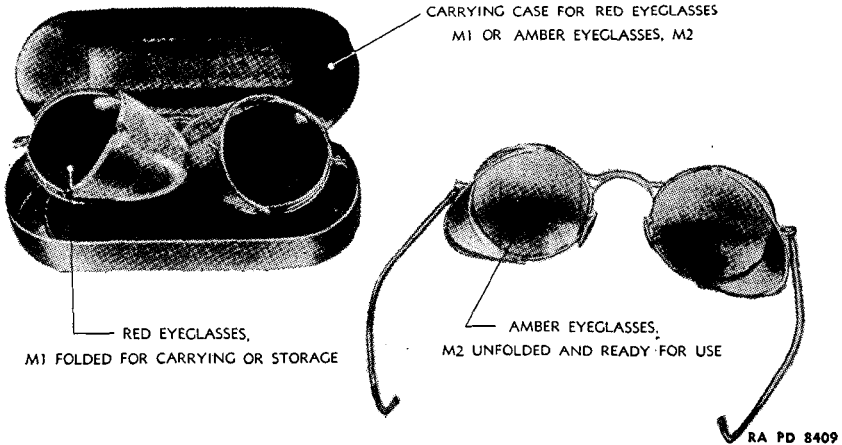

FIGURE 10.—Amber eyeglasses, M2, red eyeglasses M1, and carrying case.
6. **Eyeglasses, amber, M2.**—*a. Description.*—(1) These eyeglasses (fig. 10) are used to reduce glare in antiaircraft observation.
(2) The glasses are commercial type goggles with amber-colored ground lenses and perforated metal eyeshields which protect the eyes against grit and dirt.
(3) The metal sidepieces are covered with transparent plastic to avoid contact of the metal with the skin. The bridge of the goggles has plastic nose pads.
(4) A metal carrying case is supplied to protect the glasses when not in use.
7. **Eyeglasses, red, M1.**—*a. Description.*—These eyeglasses are used for observing tracer fire and are the same as the amber eyeglasses M2, except for the red-colored ground lenses (fig. 10).